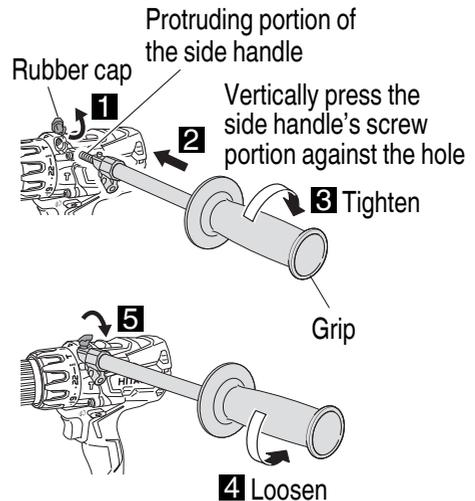

Fig. 9
3. Installing/Removing the side handle (Fig. 9)